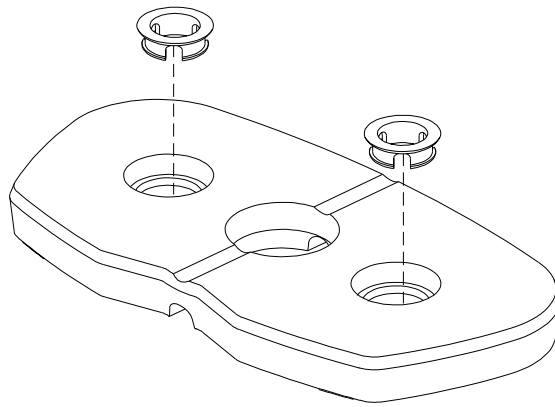

FIGURE 4
- CHECK THAT THE HEADPLATE AND WEIGHT PLATES ARE ASSEMBLED AS SHOWN IN FIGURES 4 & 5